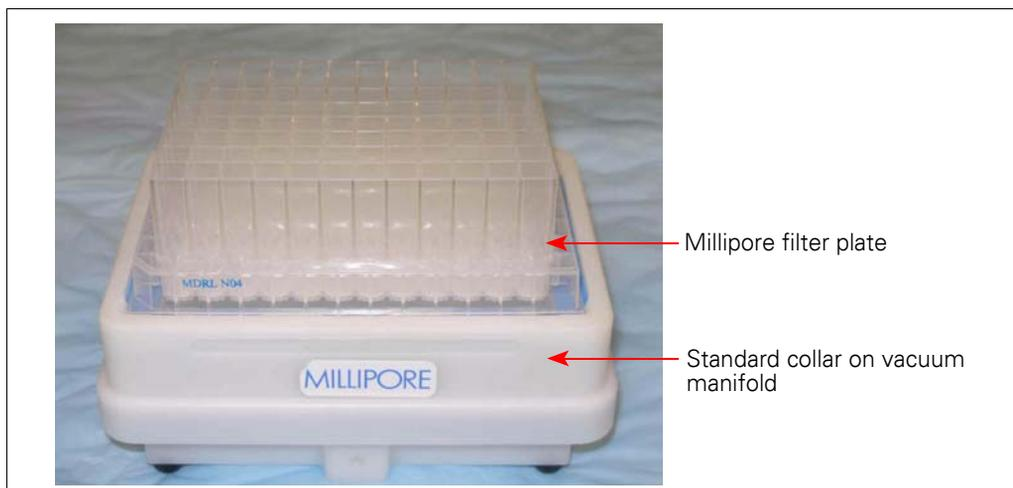

Figure 4.8 Millipore filter plate on standard collar
1. Place the filter plate on the standard collar on the vacuum manifold (Figure 4.8).